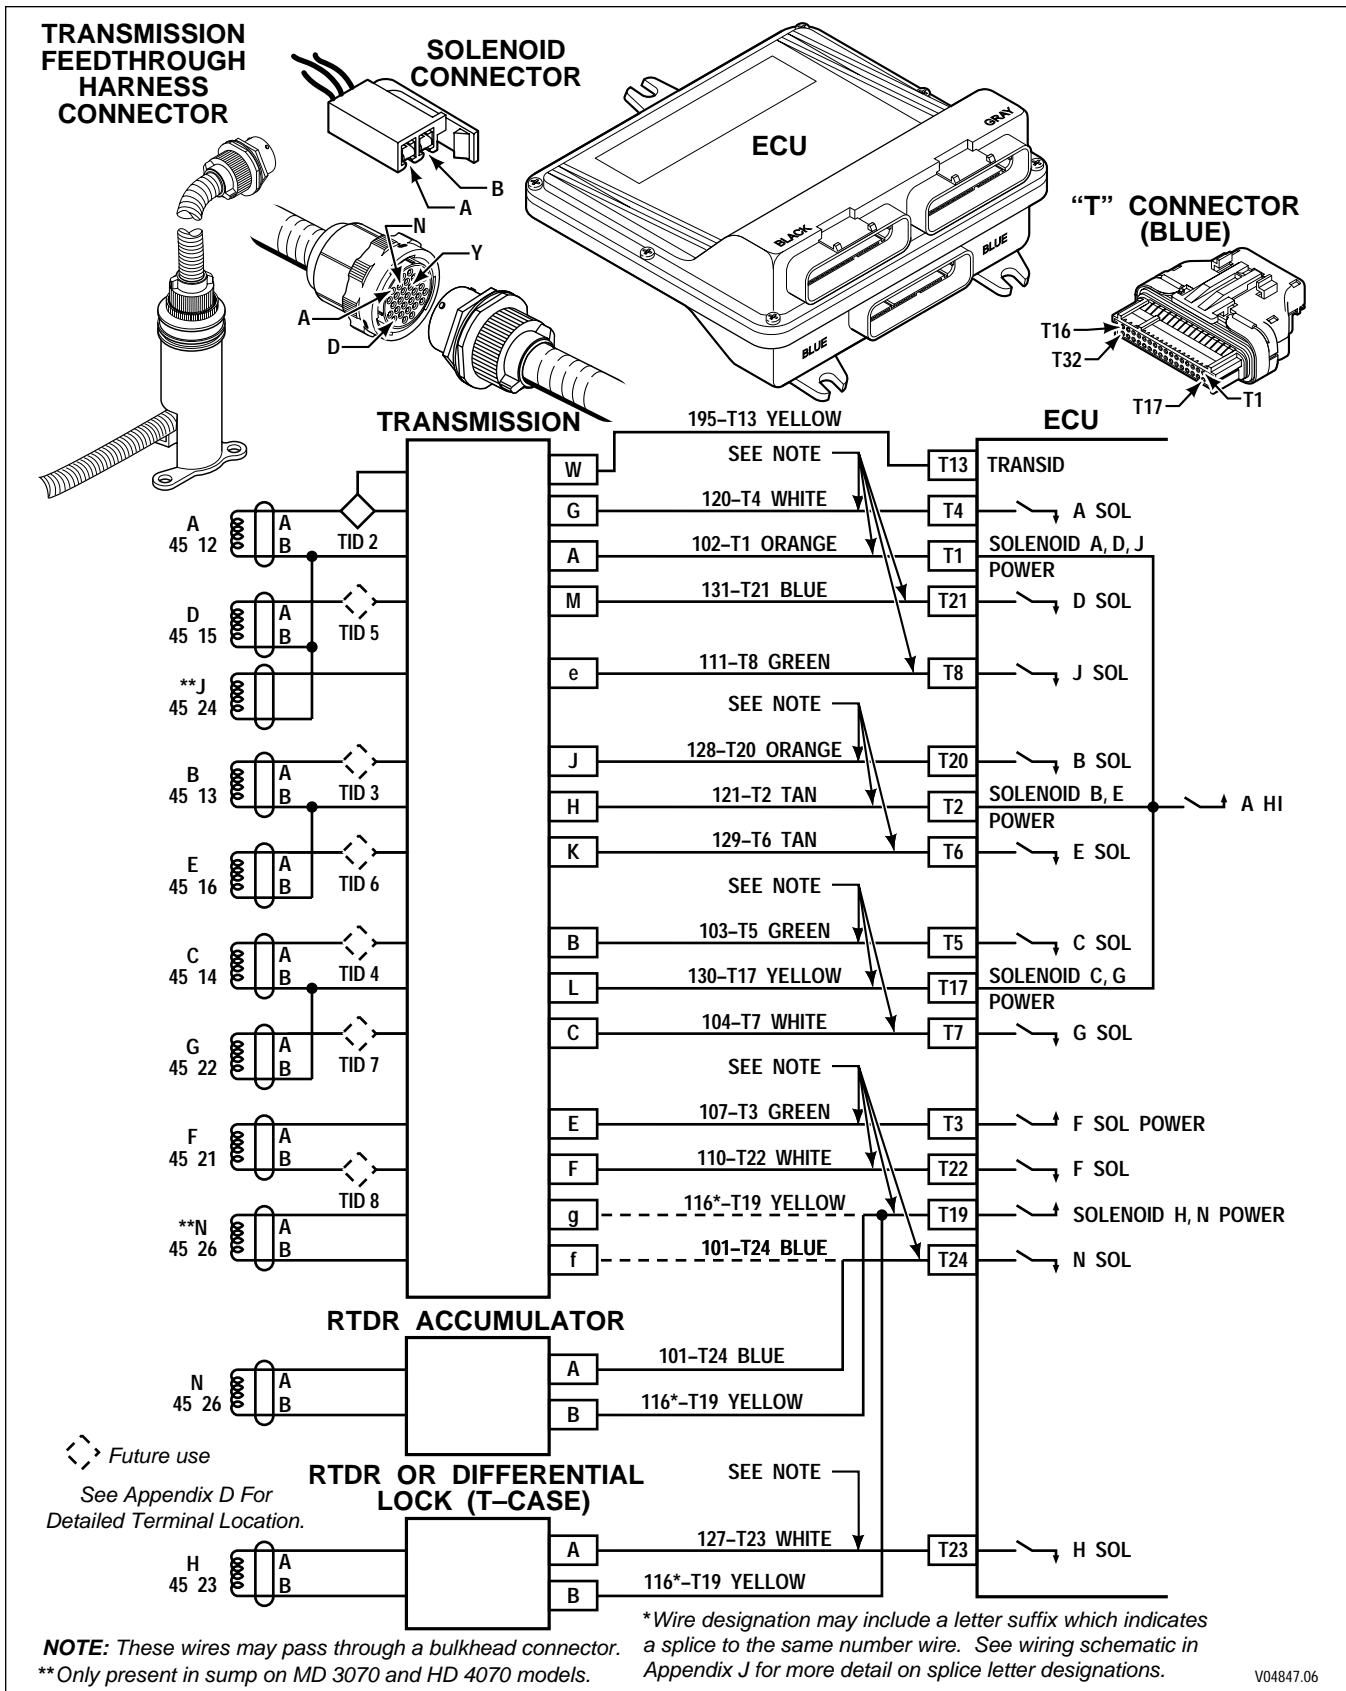

Figure 6-18. Code 45 Schematic Drawing
**CODE 45 XX — OPEN CONDITION IN SOLENOID CIRCUIT** (*Figure 6-18*)
**CODE 45 XX — OPEN CONDITION IN SOLENOID CIRCUIT** (Figure 6-18)
6. If code 45 21 occurs repeatedly and the F solenoid and wiring checks okay, the F-Hi or F-Lo driver may be failed open. Follow Step (5) above.
7. If codes 45 23 and 45 26 occur repeatedly and solenoids and wiring check okay, the H and N-Hi driver may be failed open. Follow Step (5) above.